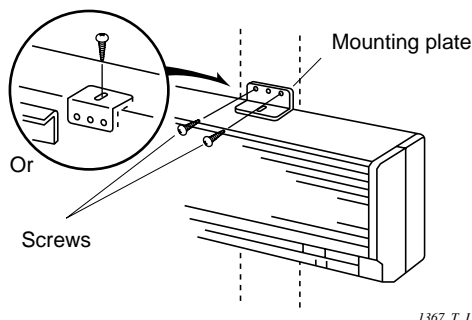

Fig. 3-52
- (5) Install the mounting plate to secure the indoor unit solidly to the wall. The plate can be positioned in either of the 2 ways shown. (Fig. 3-52)